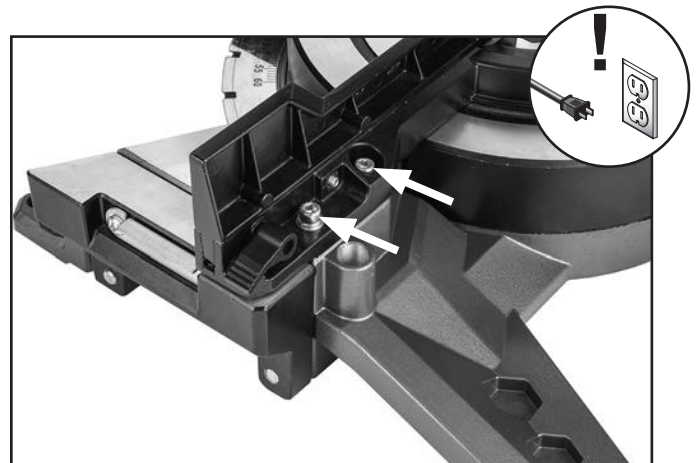

Figure 67. Location of fence screws.
7. Loosen fence screws pictured in **Figure 67**.